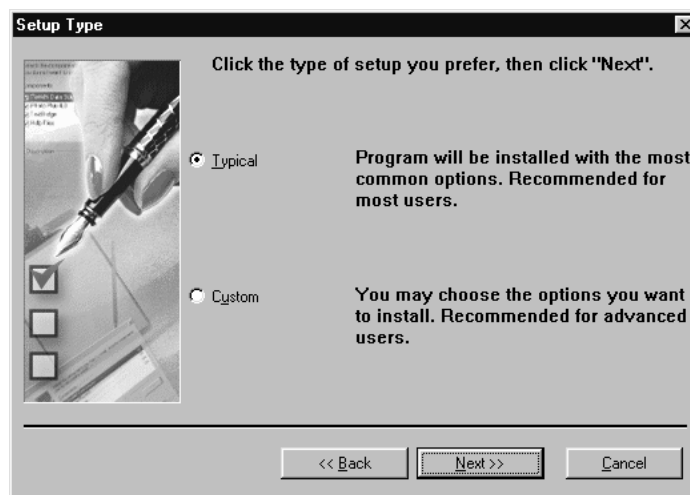

Figure 4: Determining the type of setup
- Click on 'Next' to accept the default directory and to continue with the installation. Figure 4 will pop up.